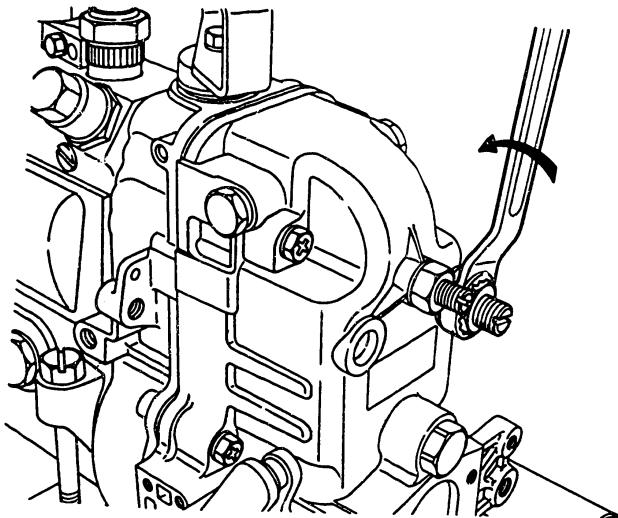

Fig. 22 Loosening locknut
9. Remove the cap nut (223).
10. Loosen the locknut (221) and remove the damper spring assembly (220). (Fig. 22)